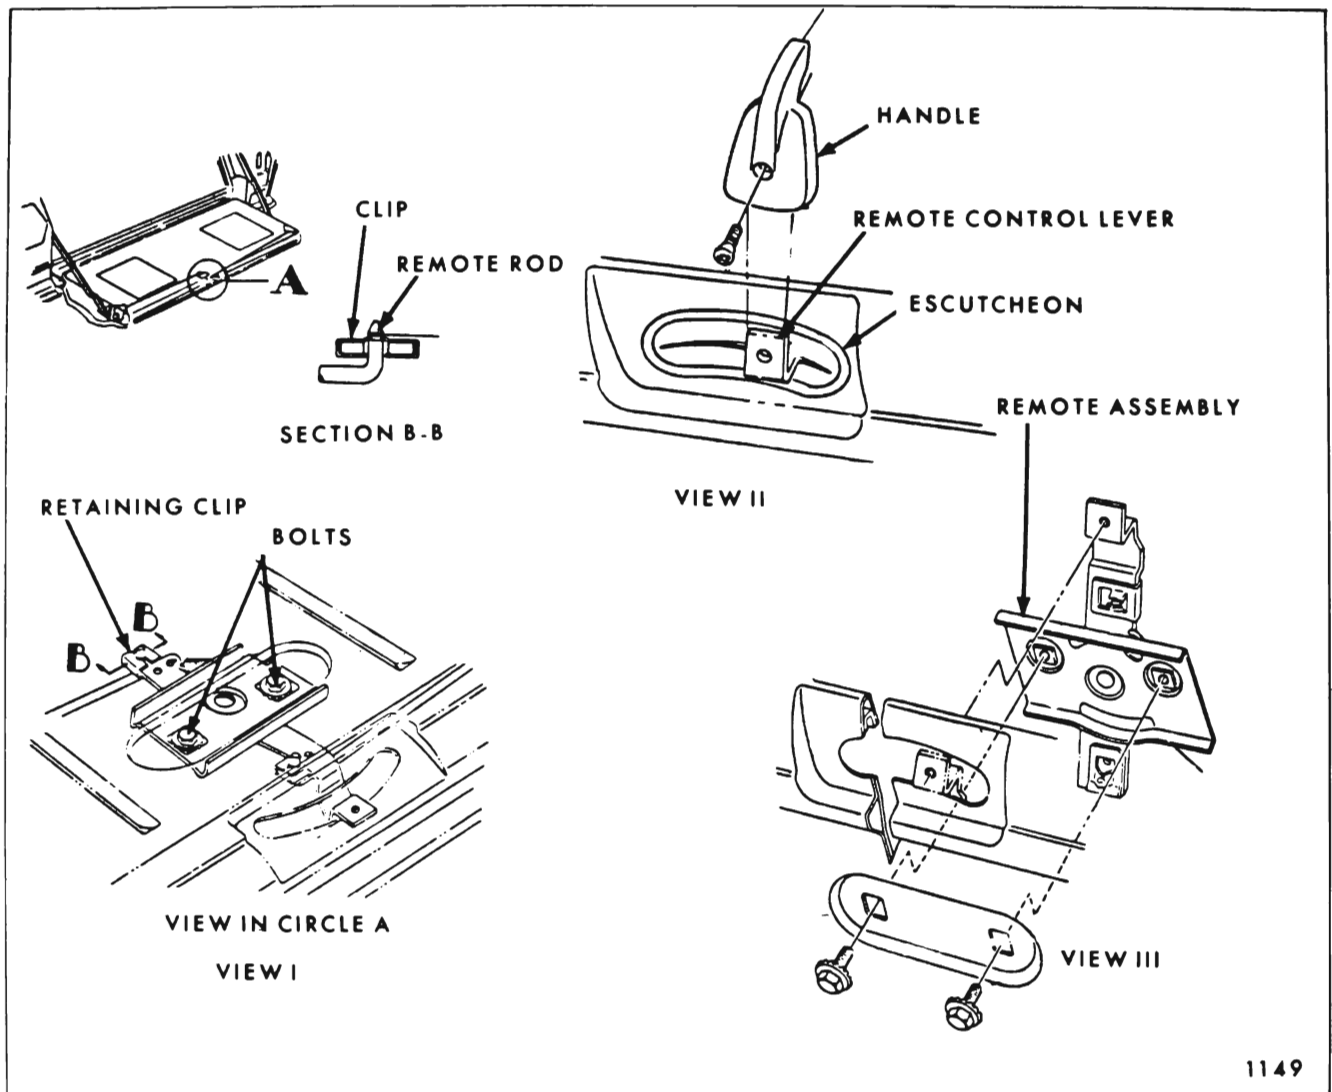
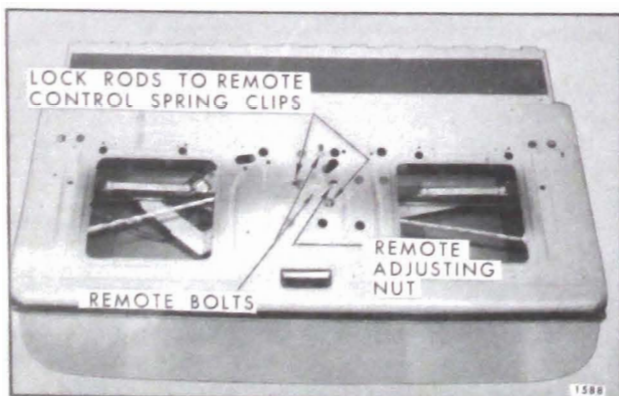

Fig. 9-17 — Tail Gate Lock Remote Control Assembly - "X" Body Styles
Fig. 9-18 — Tail Gate Hardware - "A & B" Body Styles
2. Disconnect remote control to lock connecting rods at remote assembly by sliding clip out of engagement. (See Section "B-B" in Fig. 9-17).
3. On "X" Body Styles, remove remote control inside handle attaching screw and remove handle. (See View II in Fig. 9-17). Pry out and remove escutcheon.
4. Remove remote control attaching bolts and remove assembly from tail gate. On "B" Body Styles, it will be necessary to disengage remote from inside handle push rod. (See Fig. 9-17 for "X" Body Styles and Fig. 9-18 for "B & A" Body Styles).
NOTE: The remote adjusting nut on "B" and "A" Body Styles (Fig. 9-18) can be adjusted to increase or decrease remote operating effort.